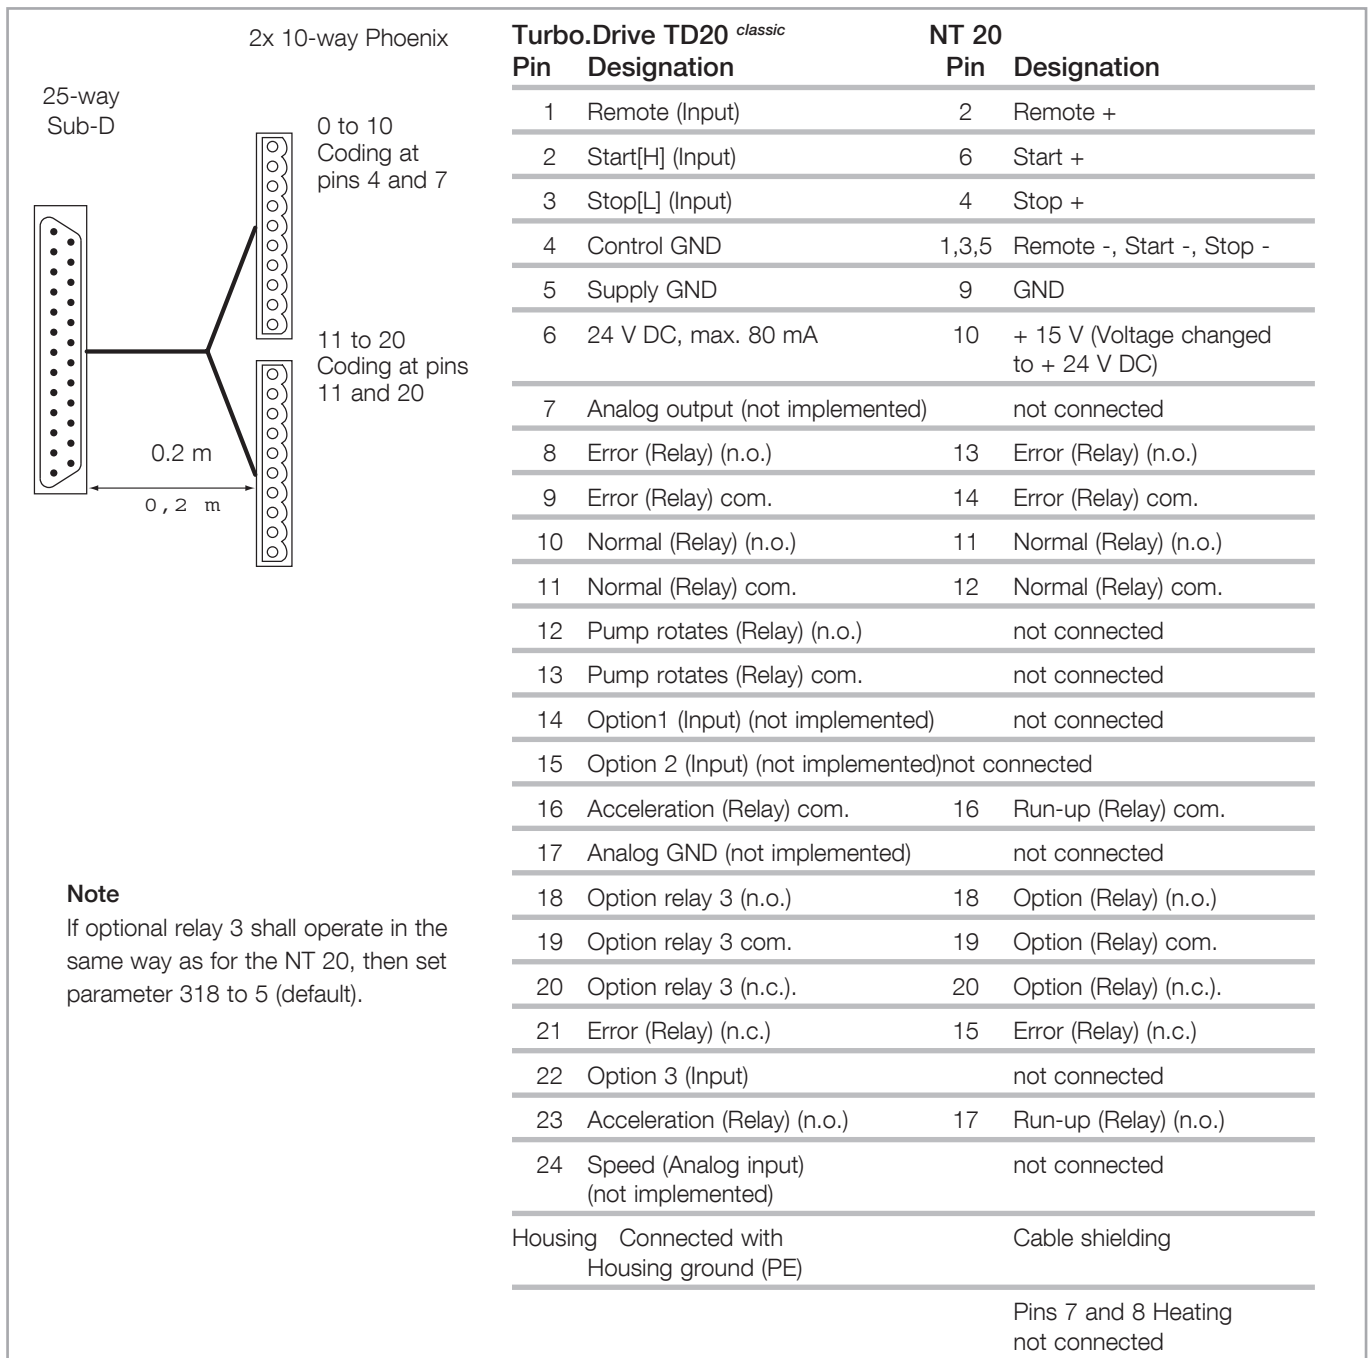

Fig. 2.3 NT 20 adapter
- for all functions by the optional 25-way PLC interface. When wanting to continue to use the old cable with the Phoenix contact strips, we are offering for this purpose an adapter, see Section 1.5 and Fig. 2.3.